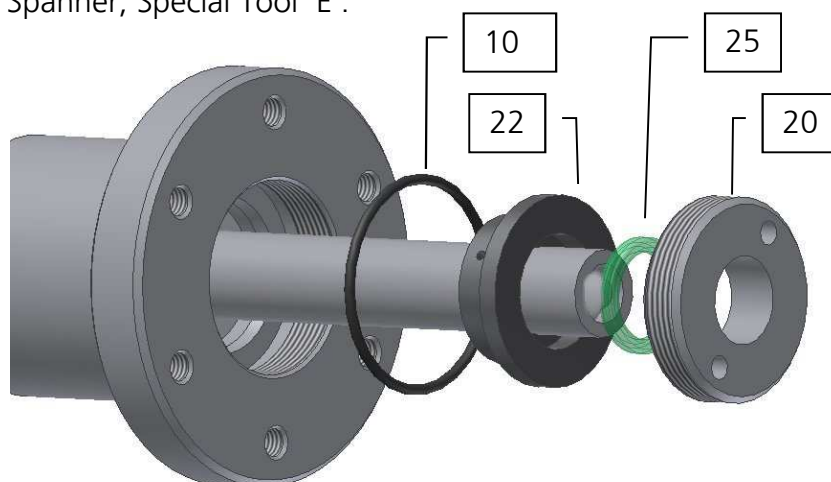

Figure 32 – Lower Piston Rod Seal Replacement
Fit new 'O' Ring (Figure 32, item 104) into the seal ring recess of the Lower Piston Rod, using an inverted Seal Ring (Figure 32, item 22) to push it into the undercut at the bottom of the thread.
Fit new Seal Ring (Figure 32, item 22) and push fully home.
Fit Quadring (Figure 32, item 25), and push fully home using Upper Sample Tube Seal Assembly Tool, Special Tool 'L'.
Fit Seal Nut (Figure 32, item 20) and fully tighten using Lower Piston Rod Peg Spanner, Special Tool 'E'.